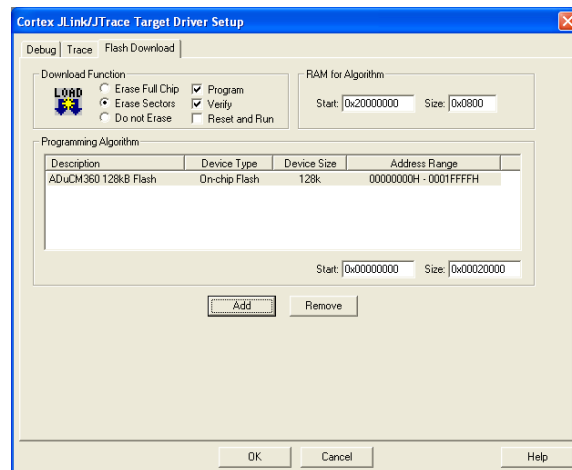

Figure 27. Finishing Target Driver Setup
9. Select **OK** when the window shown in Figure 27 appears.